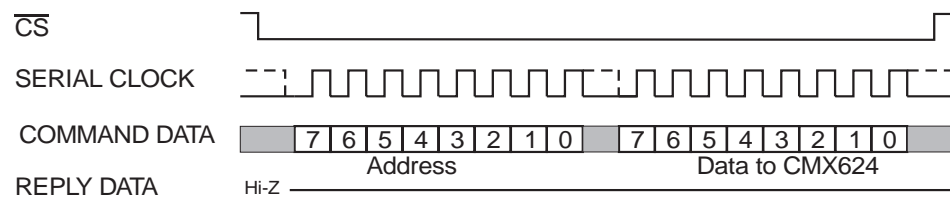

Figure 4: Serial Bus Transactions (One Address and one Data byte from μC)
1. A single data byte sent from the μC to be written into one of the CMX624's Write Only Registers, as illustrated in Figure 4.